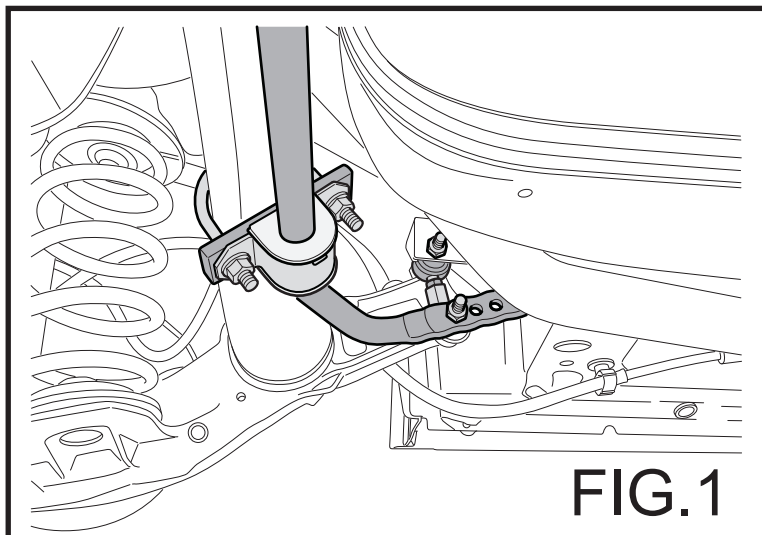

FIG.1
3. Place the supplied U bolts over the suspension beam axle, then secure the swaybar loosely using the supplied flat plates, urethane bushing's, bushing saddles and supplied nuts (as per FIG.1).